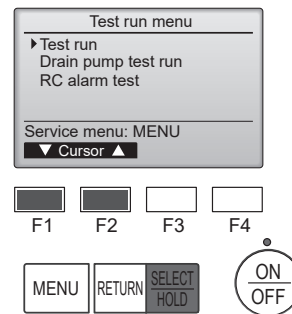

Fig. 7-4
- (4) Select "Test run" with the [F1] or [F2] button, and press the [SELECT/HOLD] button. (Fig. 7-4)